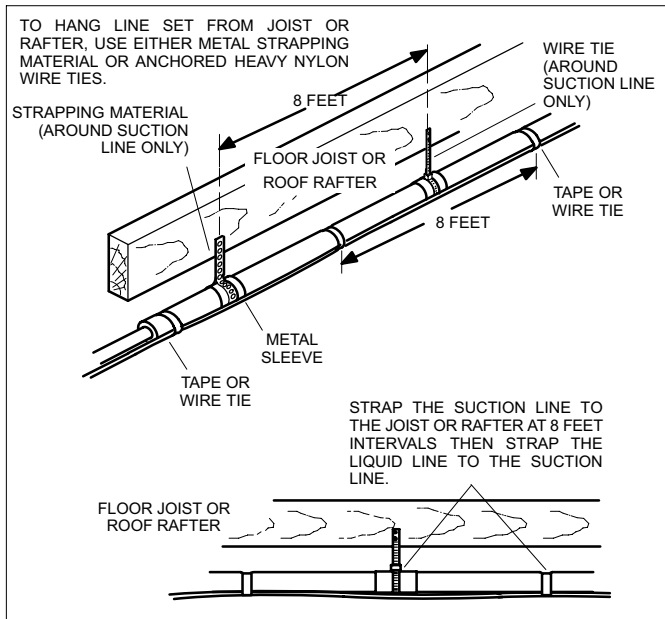

Figure 10. Refrigerant Line Set: Installing Horizontal Runs
- Installation of line set on horizontal runs is illustrated in figure 10.